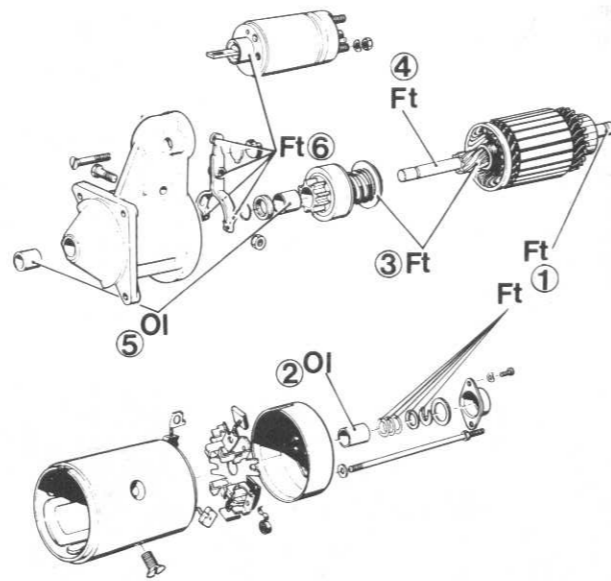

Fig. 12.5 Starter motor lubrication points (Sec 12)
- 16 Before commencing reassembly, apply grease or oil sparingly to the points shown in Fig. 12.5. Be careful not to get lubricant onto the commutator or brushgear. Clean the commutator with methylated spirit.